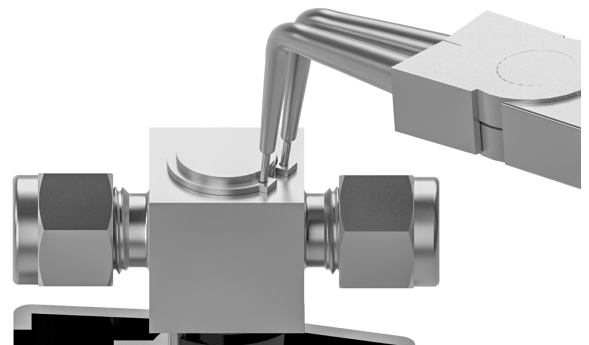

Figure 4
1. Remove snap ring using snap ring pliers or similar tool, and discard. See Figure 4. Turn handle to the open position
5. Install snap ring with snap ring pliers or similar tool. See Figure 4
1. Remove snap ring using snap ring pliers or similar tool. See Figure 4. Set aside. Turn handle to the open position